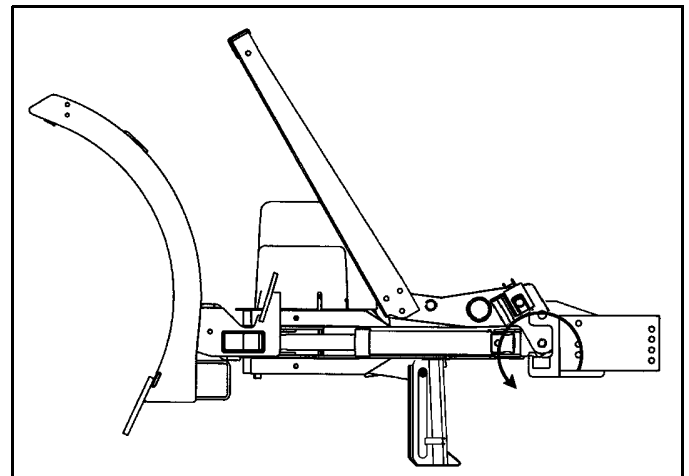

Figure 1-29
6. Rotate jack stand down and raise A-frame by pressing the up button. (See Figure 1-29).